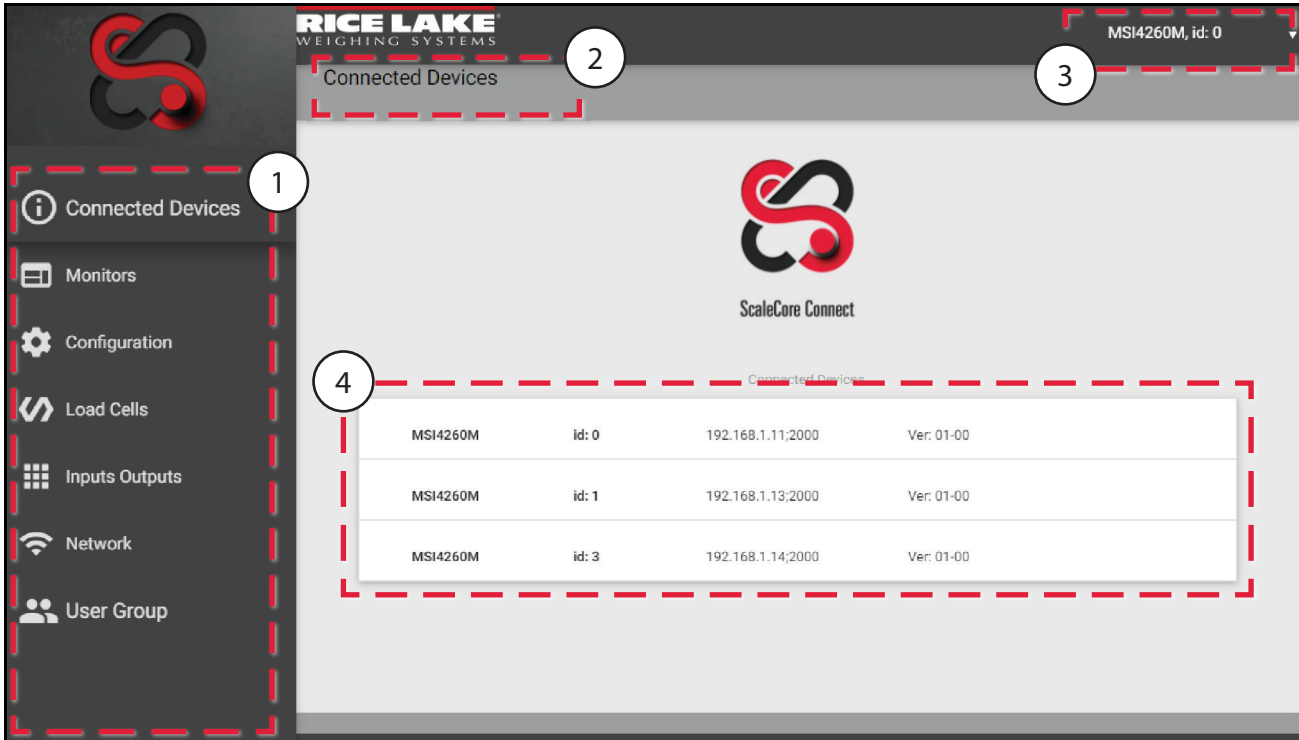

Figure 3-1. ScaleCore Webserver Interface
10. Select **Network** from the Scalecore Webserver Menu. (Figure 3-1 on page 8)
12. Click **SCAN**. ScaleCore Webserver displays connected devices (Figure 3-1 on page 8).
13. Navigate to **Connected Devices** (Figure 3-1 on page 8).